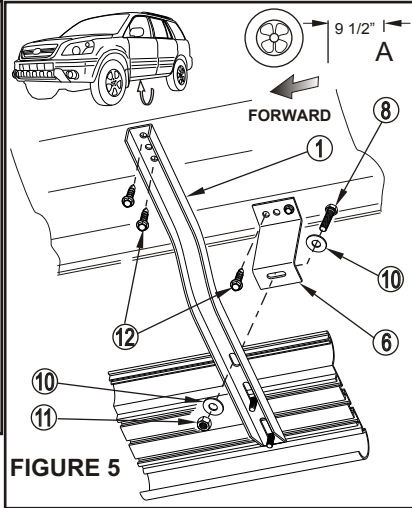
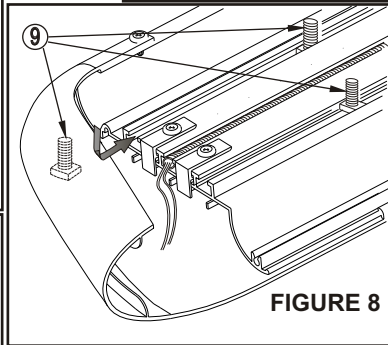
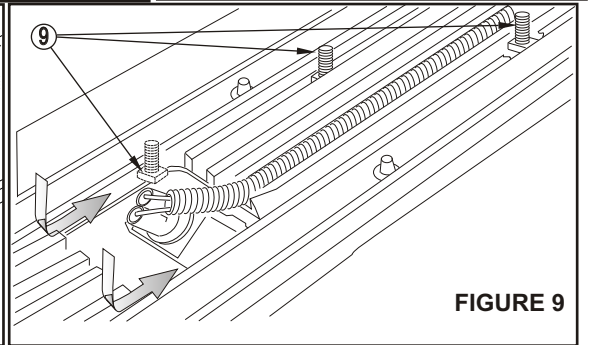

FIGURE 5
FIGURE 8
FIGURE 9
- STEP 4.** Insert square head bolts as shown (4 per slot, 8 per Step board/Running board) (See Figure 8 and 9). Attach step board to middle brackets. Align and hand tighten (See Figure 11). Locate position for front and rear hangers. Attach to rocker panel as shown (See Figure 5 and 6). Attach front and rear brackets as shown (See Figure 5 and 6). NOTE: For lighted Step board/Running board, run wiring harness prior to attaching step board to brackets (Refer to Step 7) (See Figure 8, 9 & 12). Run longer wire harness on passenger side.
- HINT:** Step boards: For Longevity, check rubber seals before installation. Rubber grommets around red and blue wires going into rear sockets, should be inserted and recessed about 1/4". NOTE: Remove bulbs and apply white grease into sockets and replace bulbs. Apply RTV Silicone where lights go into socket. Install lights and run wire loom as shown (See Figure 9). For Aluminum Running board, run wire loom down center as shown (See Figure 8).